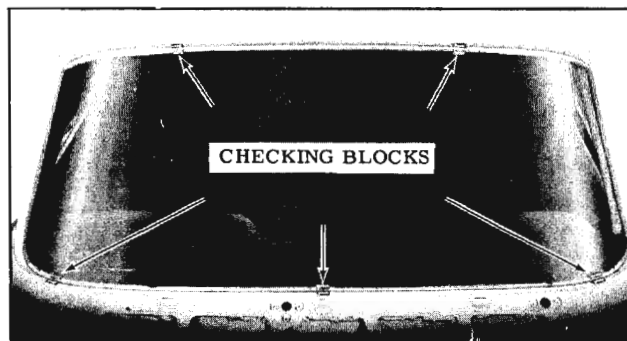

Fig. 16-7 Windshield Opening Check
4. Install Windshield Checking Blocks J-8942. (Fig. 16-7)